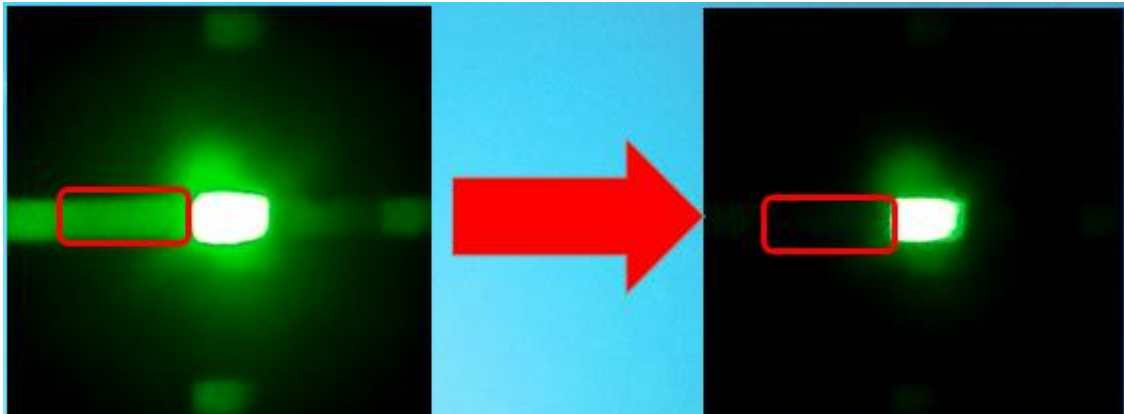

Figure 5
3. Rotate the polarizer until the bright band disappear as shown in Figure 5.